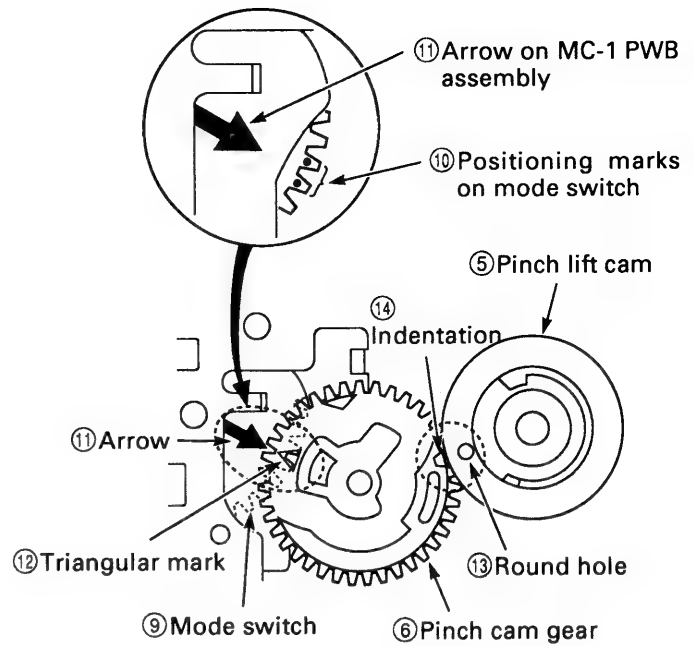

Fig.3-9-3
1. Apply grease (VHJ-0100) around the shaft ⑦, all over the teeth ⑧ of the pinch cam gear ⑥, all over the teeth of the pinch lift cam ⑤, all over the cam grooves ④, and all over the "V Part ③" of the opener mounting ③. Apply grease (VHJ-0101) to the outside of the shaft ⑧ and all over the top cam ④ of the pinch cam gear ⑥.
2. Check that the positioning mark ⑩ on the mode switch ⑨ is aligned with the arrow ⑪ on the MC-1 PWB assembly, as shown in Fig.3-9-3. Then align the triangular mark ⑫ on the pinch cam gear ⑥ with the arrow ⑪ on the MC-1 PWB assembly. After that, align the round hole ⑬ on the pinch lift cam ⑤ with the indentation ⑭ on the pinch cam gear ⑥.